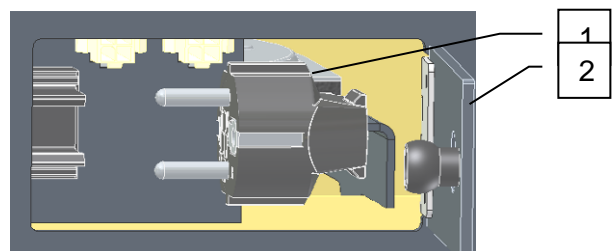

Figure 4
2. Remove any connected charging plug (figure 4, position 1) from the machine.